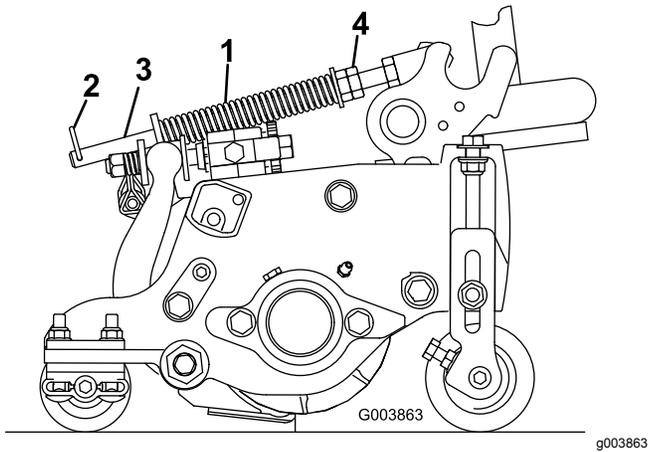

Figure 17
The turf-compensation spring (Figure 17) transfers the weight from the front to the rear roller. This helps to reduce a wave pattern in the turf, also known as marcelling or bobbing.
1. Make sure that the hairpin cotter is installed in the rear hole in the spring rod (Figure 17).
2. Tighten the hex nuts on the front end of the spring rod until the compressed length of the spring is 12.7 cm (5 inches) for 5-inch cutting units or 15.9 cm (6.25 inches) for 7-inch cutting units (Figure 17).